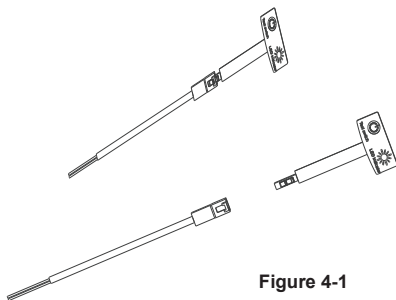

Figure 4-1
1. Disconnect the quick connector of the EM Inverter Tape Indicator (refer to Figure 4-1).